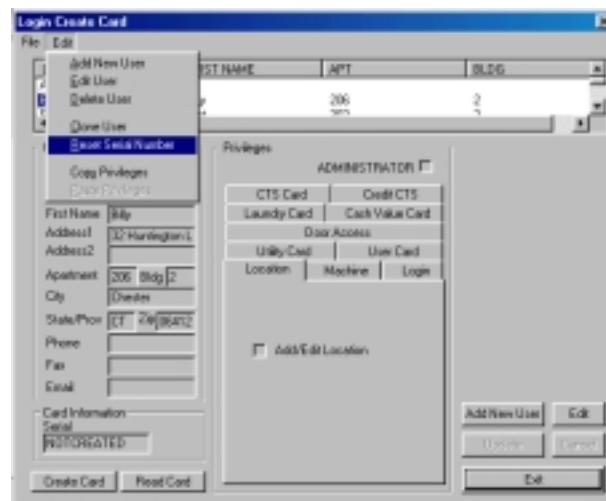

Figure 4.21 Resetting a User's Card Serial Number
4. Select Reset Serial Number from the Edit drop-down menu (Figure 4.21).